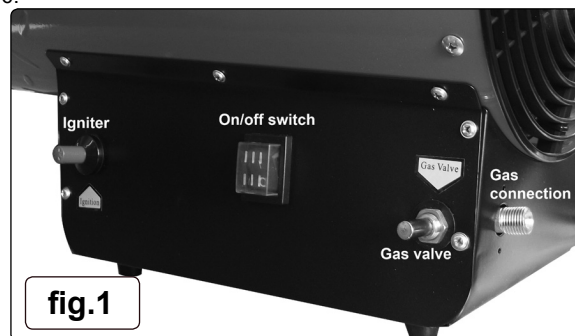

fig.1
- 4.2.2. Switch on the fan by means of the on/off switch (fig.1) and ensure that the fan is running.